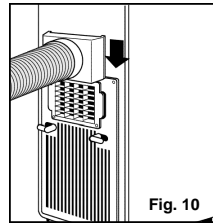

Fig. 10
- 1) Install the **Flexible Exhaust Hose** *Fig. 10* and the **Adjustable Window/Patio Door Slider Kit** as depicted in *Fig. 2, 2a & 2b (pg. 5)*.